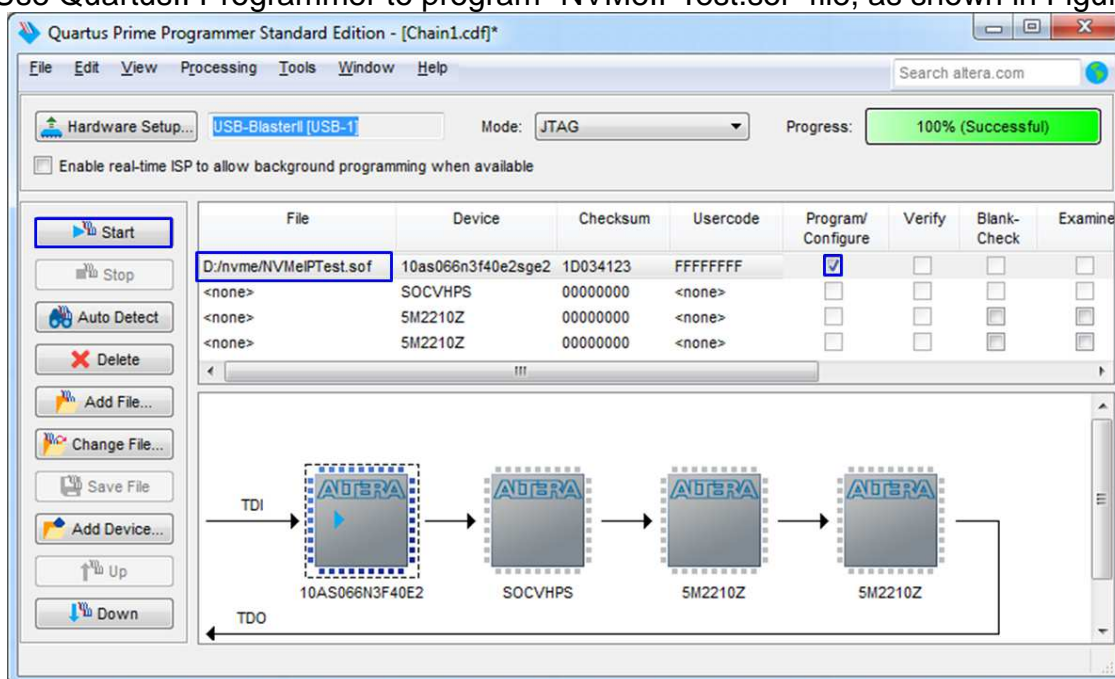

Figure 2-10 Programmed by QuartusII Programmer
- Use QuartusII Programmer to program “NVMeIPTest.sof” file, as shown in Figure 2-10.